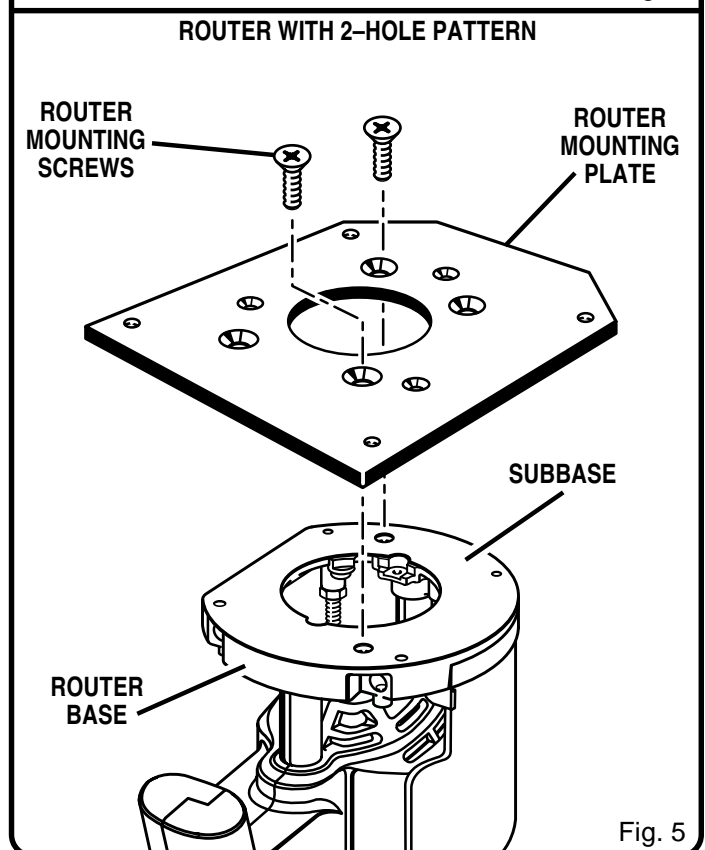

Fig. 5
See *Figures 5 and 6*.
- The switch handle of the router should be facing the squared end of the mounting plate. See *Figure 5*.
See Figures 5 and 6.